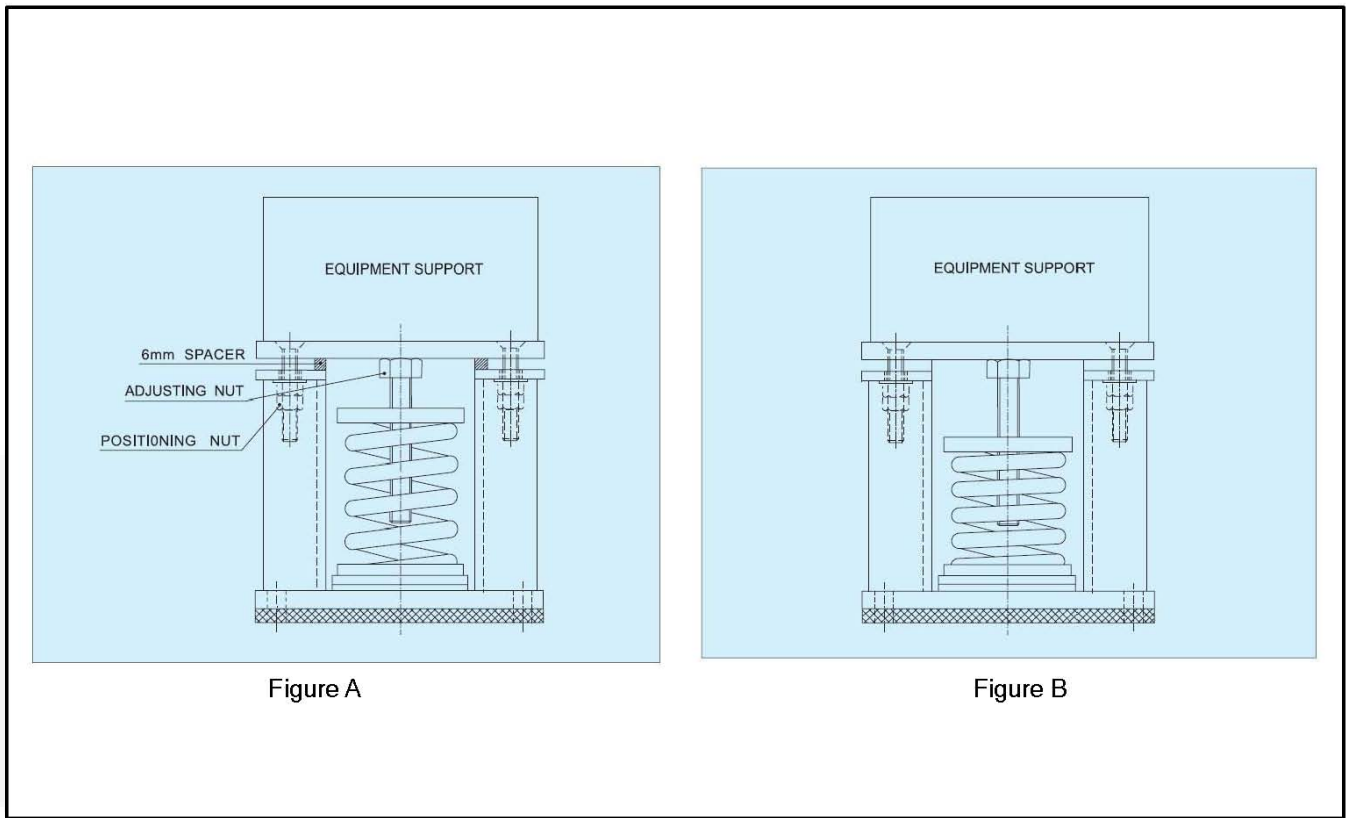

FIGURE 4. VIBRATION ISOLATORS
1. Place the vibration isolator (FSR Mounting - Free Standing Restrain) under the support point of the equipment, ensure that the load is uniformly distributed over the top plate of the vibration isolator as shown in Figure A & B see Figure 4.
The FSR Mounting shown is pre-assembled with a suitable spacer (6mm). Do not make any adjustment before installation. Adjustment of the FSR Mounting should be done when the equipment is at its operating weight. (Refer to Figure A of Figure 4.)
- d. When equilibrium point is reached, the 6 mm spacer can be removed from the FSR mount. (Refer to Figure B of Figure 4.)